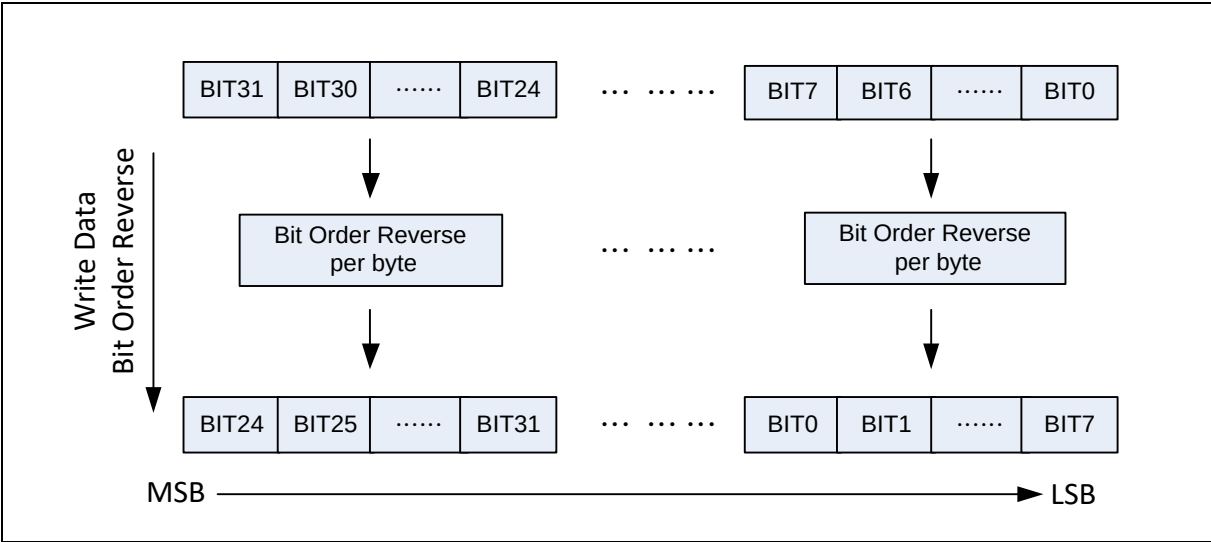

Figure 6.22-3 Write Data Bit Order Reverse Functional Block
- 4) Configure bit order reverse for CRC write data per byte by setting DATREV (CRC_CTL[24] Write Data Bit Order Reverse). The functional block is also shown in Figure 6.22-3.